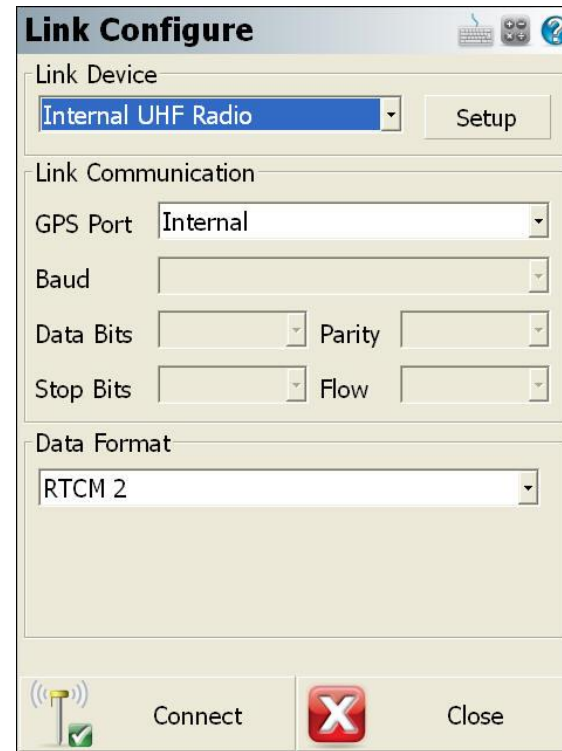

Figure 8: Link Configure
79. On the Link Configure dialog box (refer to Figure 8), select **Internal UHF Radio** as the Link Device. The GPS Port is **Internal**, for the 1W radio only.
84. On the **Link Configure** dialog box (refer to Figure 8), click **Connect**.